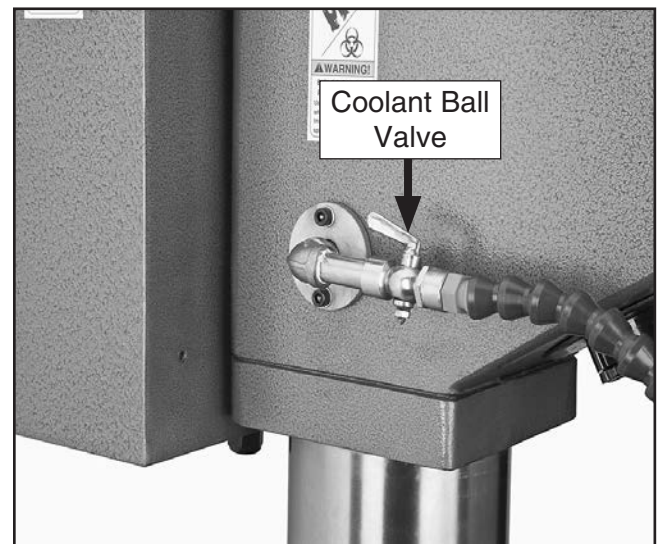

Figure 24. Coolant ball valve.
4. Regulate the coolant flow to the contact area using the coolant ball valve shown in **Figure 24**.